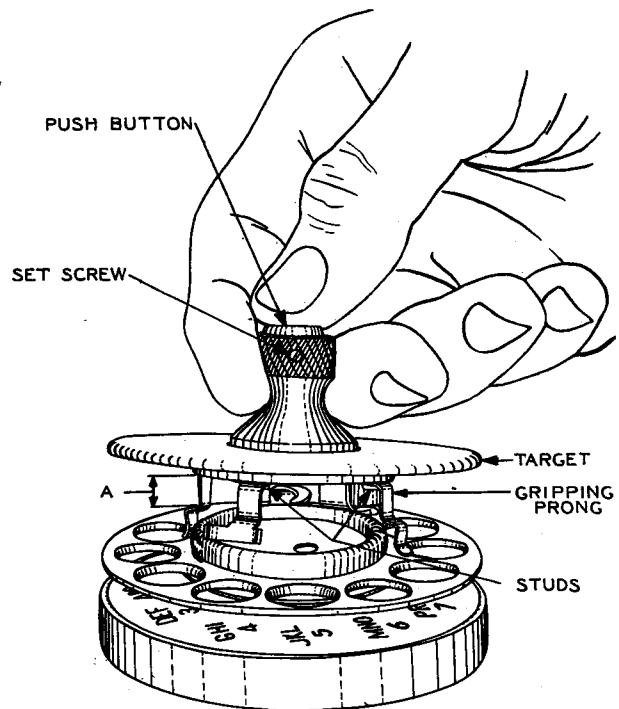

Fig. 10—Method of Placing Stroboscope Target on Dial
(g) Mount the target on the dial to be tested by grasping the knurled knob between the second and third fingers, and with the thumb, fully depress the pushbutton on the knob to expand the prongs, as shown in Fig. 10, to avoid marring the finish of the dial. Partially insert the notched stud and prong into the 0 hole of the fingerwheel, holding the target at an angle so that the extreme outer edge of the stud first engages the edge of the 0 hole and steadies the target and the remaining three prongs are above holes 1, 4, and 7. While still depressing the pushbutton, carefully press the target into place so that the prongs engage the holes mentioned above. If the pushbutton binds in its bearing seat, remove the setscrew with the R-1005 jewelers screwdriver and remove the button. Clean the bearing seat with a KS-2423 cloth moistened with KS-7860 petroleum spirits. Remount the button and tighten the setscrew securely. If the gripping prongs bind under the studs, clean the bearing surfaces with petroleum spirits applied with a clean toothpick. Do not use the same toothpick for more than one cleaning operation.
- (1) There is some clearance throughout the rotation of the dial between the gripping prongs of the target and the number plate and number plate clamping ring.
- (2) There is some clearance between the three prongs of the target and the finger stop.
- (3) There is no rotary play between the target and the fingerwheel.
- (4) The target prongs have sufficient tension to hold the target snugly on the dial. (The target prongs will, in general, have sufficient tension to hold the target on the dial if the portion of the prongs designated A in Fig. 10 is at right angles to the base of the target.)